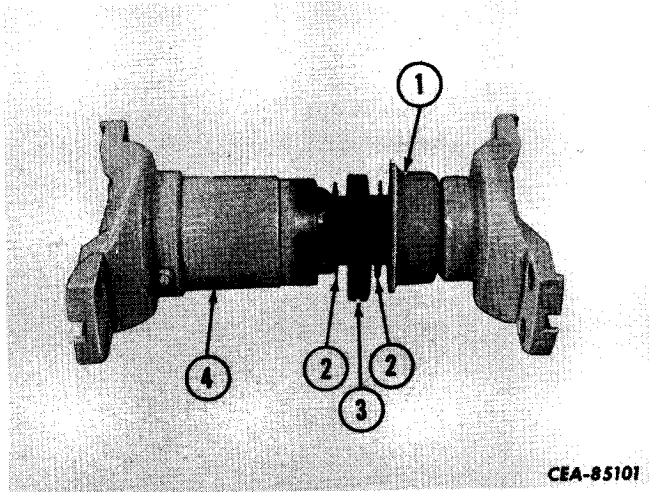

Figure 5-10
Unscrew the packing retainer (1, Fig. 5-10) and slide it back on the splined shaft. Remove the slip yoke (4), packing retainer washers (2) and packing (3).